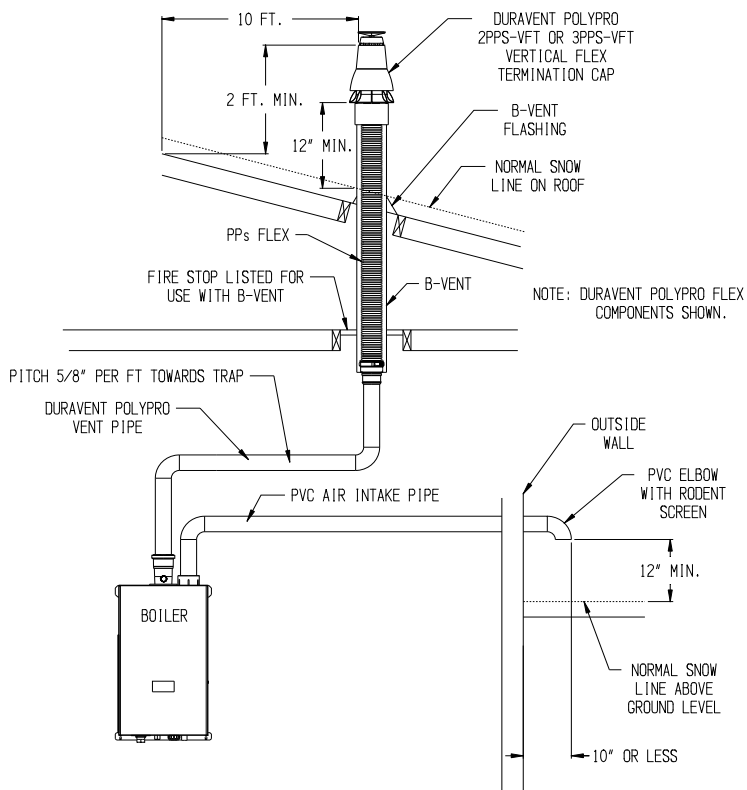

FIGURE 7.23: SPLIT VENT SYSTEM (FLEX IN B-VENT CHASE)(VENT OPTIONS 33-38)
4. Use of abandoned chimneys as a vent chase (Options 33-38) – Vent options 33-38 permit flexible polypropylene venting to be routed to the roof using an abandoned masonry or B- vent chimney. In these applications combustion air is drawn horizontally from a wall terminal. See Figure 7.23 or 7.24. When using one of these vent options, observe the following requirements:
Example: A 100MBH model is to be installed as using Vent Option 34 in a masonry chimney as shown in Figure 7.23. The following components are used: